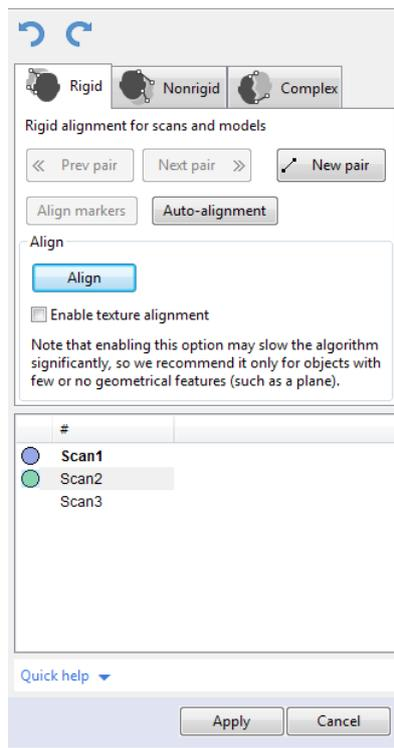

Figure 66: *Align* panel: *Rigid* tab.
1. Make sure the *Rigid* tab is selected in the *Align* panel (see Figure 66). The tool will automatically select all scans. Clear unnecessary selections by using the `Ctrl` key (see *Scan Alignment*).
1. Make sure the *Rigid* tab is selected (see Figure 66).